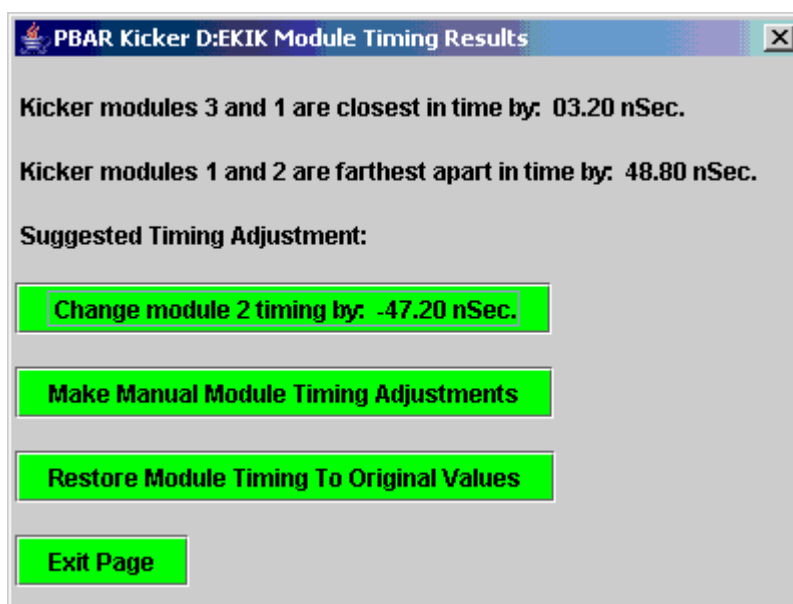

Figure 29: The results and suggested timing change are displayed on another popup window.
7. The Timing Results window (see Figure 29) presents the results and suggested tuning options. If the changes look reasonable, then make the suggested changes. It is normal to make ~200nsec changes.